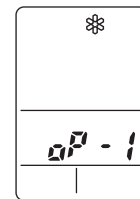

Fig. 34
- d) ✱ appears and “oP-1” blinking in the remote controller clock display area. (Fig. 34)